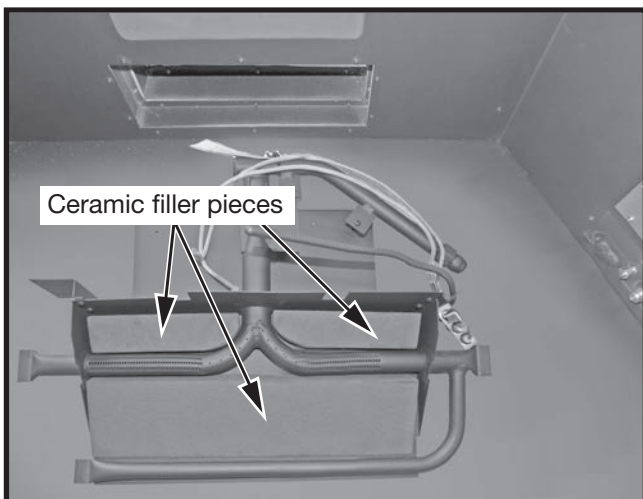

Figure 6: Ceramic filler pieces.
4. Replace/insert the 3 ceramic filler pieces into the center of, and to the upper left and right hand side of lower burner (Figure 6).